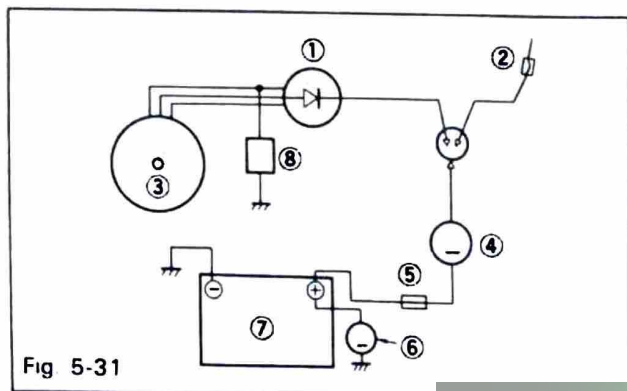

Fig 5-31
2. Connect a D.C. ammeter (of about 5A) as shown in Fig. 5-31.